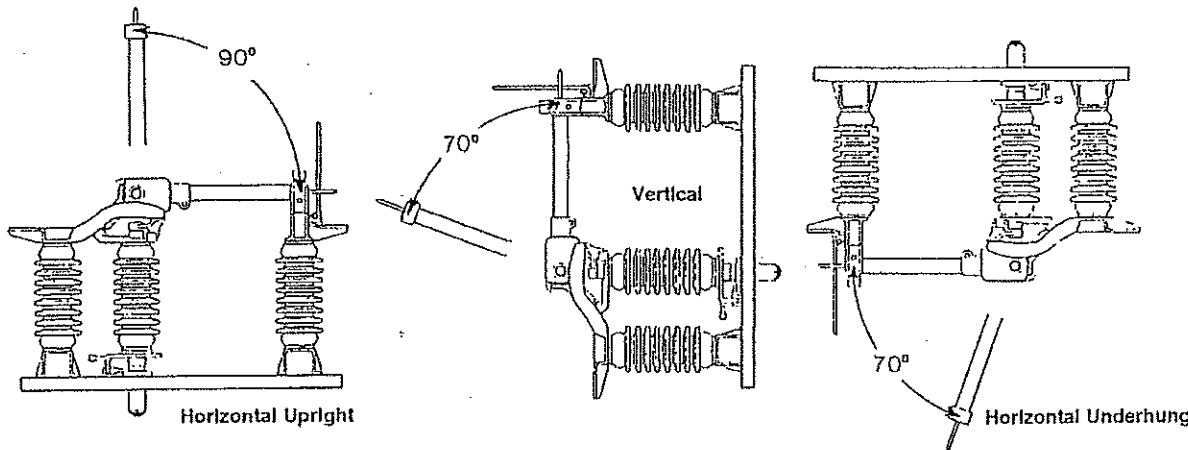

Figure 5: Blade open angles
7. The switch is shipped with the standard blade openings shown in Figure 5. However, for vertical and underhung switches, the blade open angles are easily adjustable with the open position stop. Any adjustment to the live part stops will require resetting the bearing stops.